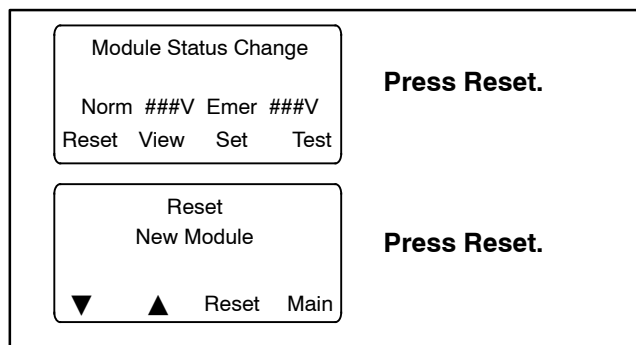

Figure 4-15 Screens after Module Connection
1. If the ATS display shows Module Status Change, press the Reset button. See Figure 4-15.
8. Close the enclosure door and reconnect power to the ATS. The display will show Module Status Change. See Figure 4-15.